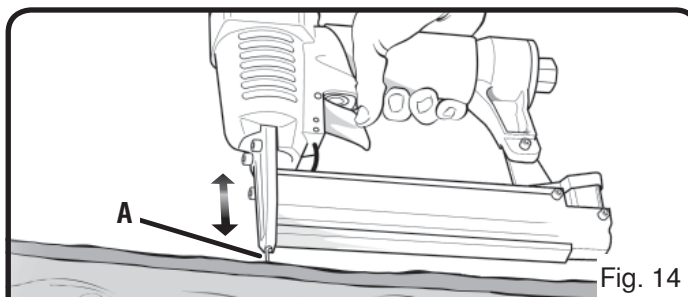

Fig. 14
- d) Always disconnect the tool from the air supply when unattended, performing any maintenance or repair, clearing a jam, or moving the tool to a new location. Do not load the tool with nails/staples when either the trigger is depressed or the Protector (Fig. 14 - A) is engaged. The tool could eject a nail/staple causing death or serious personal injury.
- k) Always check that the protector (A) is operating properly. A nail/staple could accidentally be driven if the protector (A) is not working properly. Personal injury may occur.
- 2) Check that protector (A) of the nailer/stapler is working correctly. Check that it is free to move in and out without any obstruction (Fig. 14).